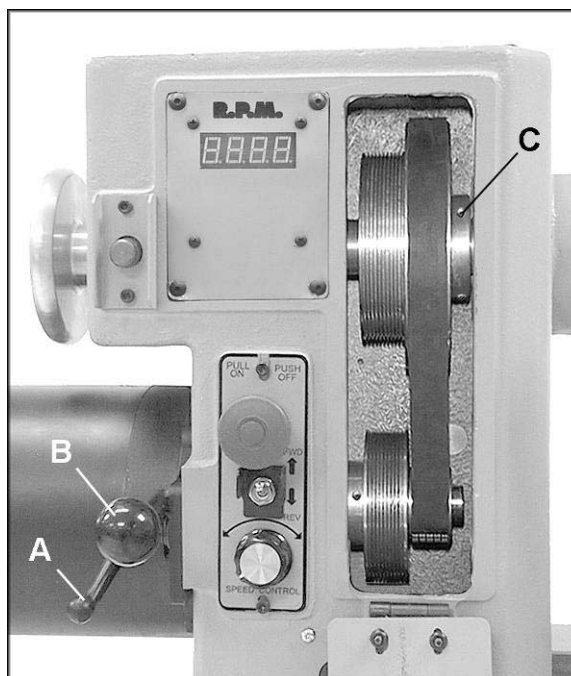

Figure 25
3. Loosen the pivot lock handle (A, Figure 25) and lift up the tension handle (B, Figure 25) to raise the motor. Tighten the pivot lock handle (A, Figure 25) to hold the motor in the raised position.
5. Loosen the pivot lock handle (A, Figure 25) and lower the motor to tension the belt. Be sure that the Poly-V grooves of the belt seat properly in the corresponding groove of the sheave. Do not overtension; a very light pressure on the tension handle (B, Figure 25) is adequate to prevent belt slippage.
6. Tighten the pivot lock handle (A, Figure 25).
The motor and spindle sheaves are aligned with each other at the factory, but if any service is performed that affects their alignment it is very important that they be realigned. To realign them, loosen the two set screws on the spindle sheave (C, Figure 25) with a hex wrench, and slide the spindle sheave into the proper position. Re-tighten set screws.